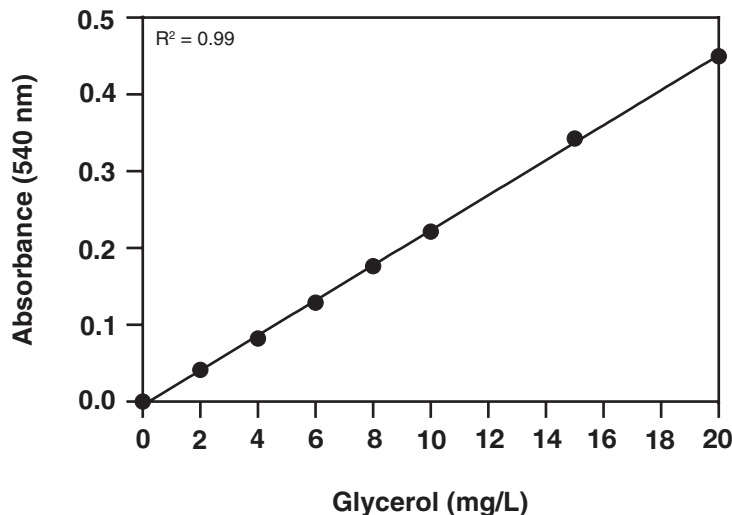

Figure 4. Glycerol standard curve
3. Graph the corrected absorbance values (from step 2 above) of each standard as a function of the final glycerol concentration (mg/L). (see Table 1, page 11) A typical glycerol standard curve is shown in Figure 4, on page 16.